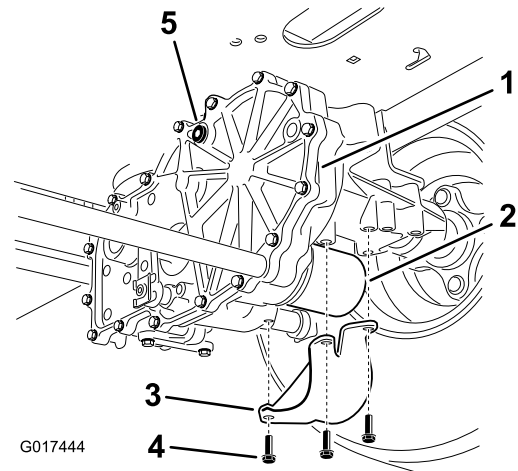

Figure 62
4. Locate the filter and guards on each transaxle-drive system (Figure 62).
5. Remove the 3 screws securing the filter guard and guard (Figure 62).